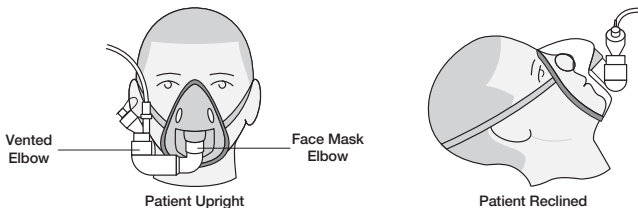
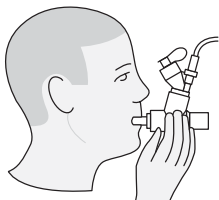
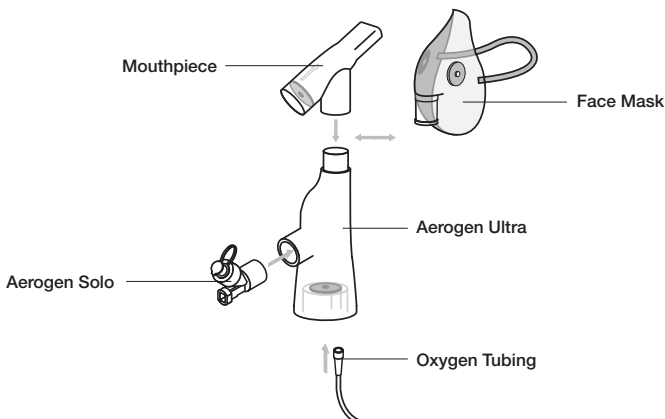

Figure 11. Connecting to a mask
Figure 12. Connecting to a mouthpiece
Figure 13. Assembly of Aerogen Ultra
**Note:** For use with other accessories, refer to Figure 11, Figure 12 and Figure 13.
2. Rotate the vented elbow to suit the position of the patient (Figure 11).
When using a mouthpiece, connect the nebulizer to the T-piece and then connect the T-piece to the mouthpiece by pushing the parts firmly together as shown in Figure 12.
**Warning:** To ensure correct nebulization, maintain the nebulizer in a vertical orientation (Figure 11 & Figure 12).
1. Insert Aerogen Solo nebulizer firmly into Aerogen Ultra in orientation shown in Figure 11.